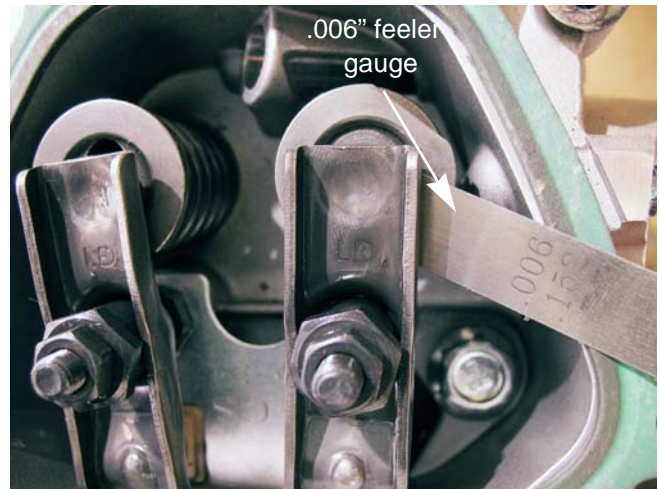

Figure 1.14
9. Intake valve lash (carburetor side) should be 0.004”-0.006” (0.10 - 0.15mm). See Figure 1.14.